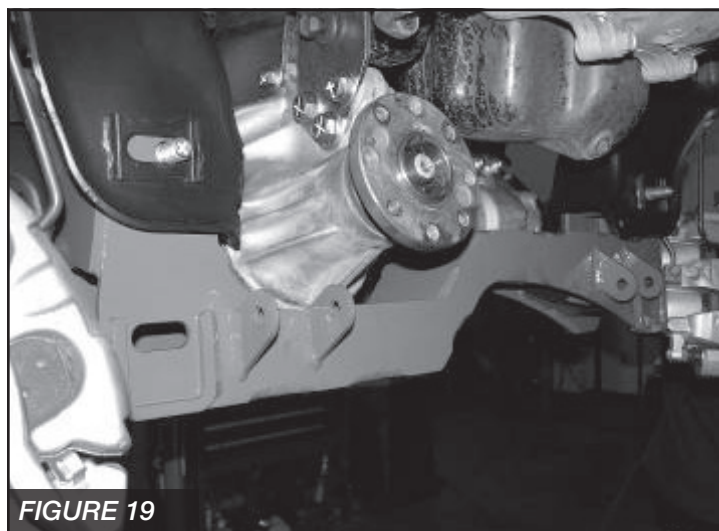

FIGURE 19
29. Locate FT44089BK rear crossmember and install it into the frame pockets using the $\frac{5}{8}$ " x $5\frac{1}{2}$ " bolts, nuts, and washers. Leave loose at this time. **SEE FIGURE 19**